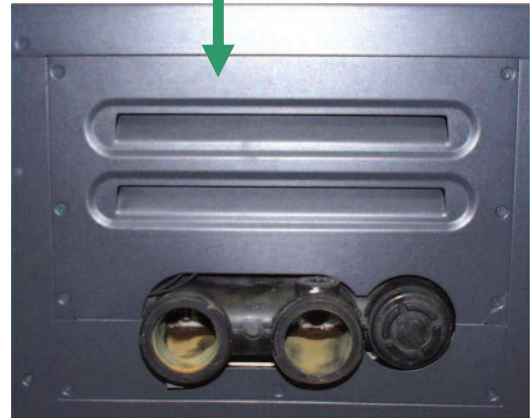

Fig. 4
3. Remove the upper access panel. See **Fig. 4**.
18. Once the draft hood is securely in place, re-install the upper access panel. See **Fig. 4**.